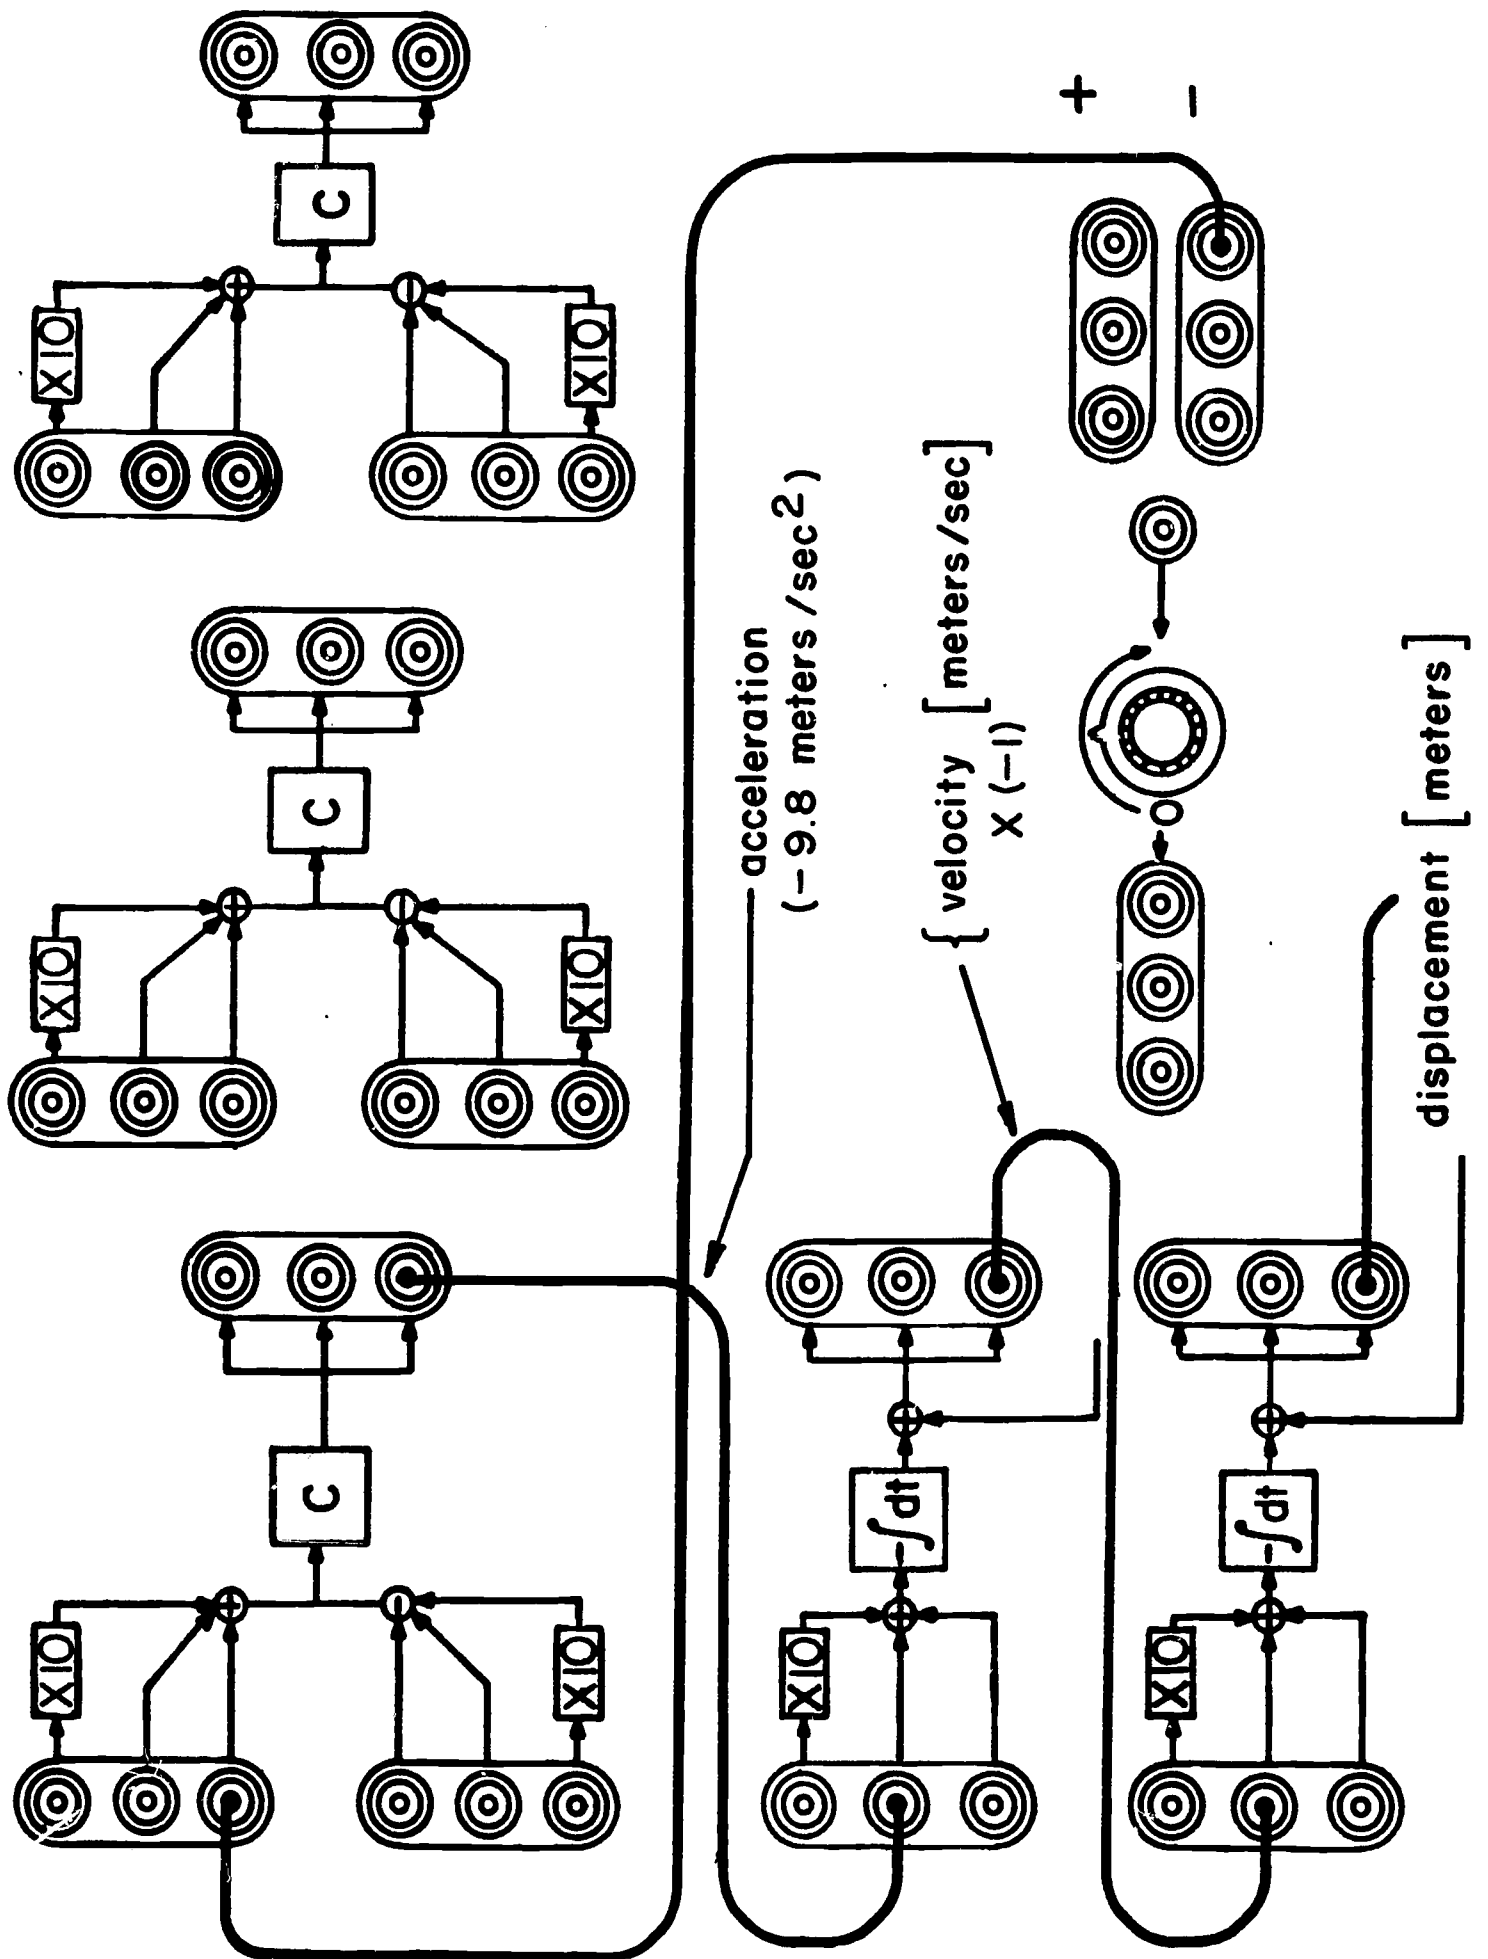

Fig. 1 Simulation of Freely Falling Ball.
8. Wire the Analog as shown in Fig. 1.